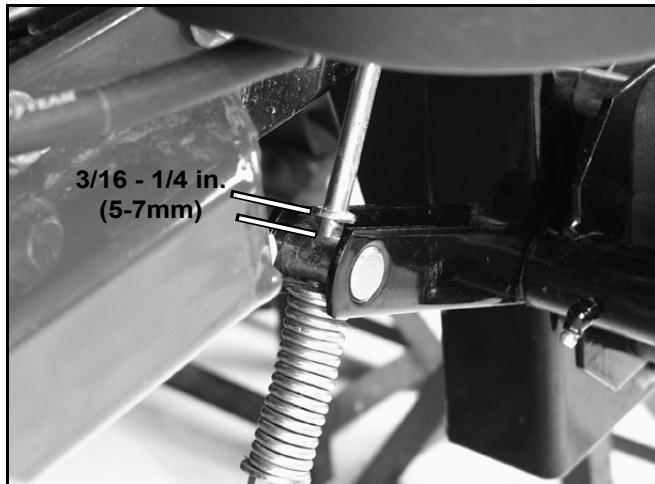

Figure 88
- A. Measure the distance between the trunnion roller and the collar on brake rod. Measurement should be 3/16 - 1/4 in. (5 -7mm) (Figure 88).
6. If adjustment is necessary, loosen the jam nut directly below the yoke. Turn the bottom rod until the correct measurement is obtained (Figure 88). Tighten jam nut at the yoke.